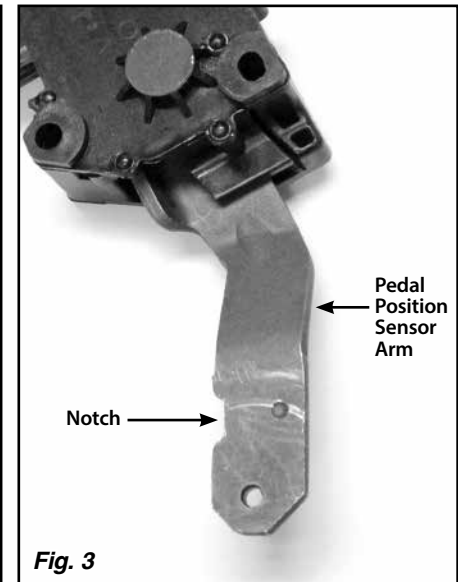

Fig. 3
Step 2: There is also a spring-loaded pin in the original pedal that fits into a notch in the pedal position sensor arm. Depress the spring loaded pin from the left side of the pedal using a punch, a small screwdriver, or the pin you just removed in **Step 1**. With the spring-loaded pin depressed, pull up on the bottom of the original pedal until the sensor arm catches the spring-loaded pin. Then remove your tool, and rotate the original pedal off of the pedal position sensor arm. **Fig. 3**